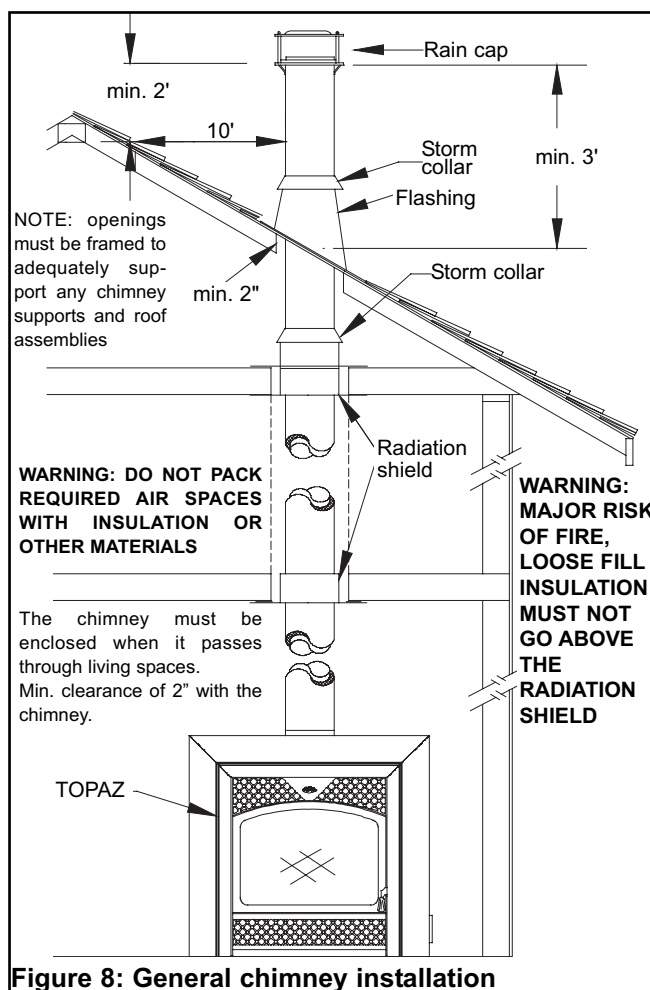

Figure 8: General chimney installation
2. From below, install a radiation shield in each floor through which the chimney passes. At the attic level, install a radiation shield and a storm collar as shown in (Figure 8).
NOTE: In **USA** if the chase is enclosed or flashed to the roof as shown in (Figures 8, 10 and 11), then the flashing must be vented.